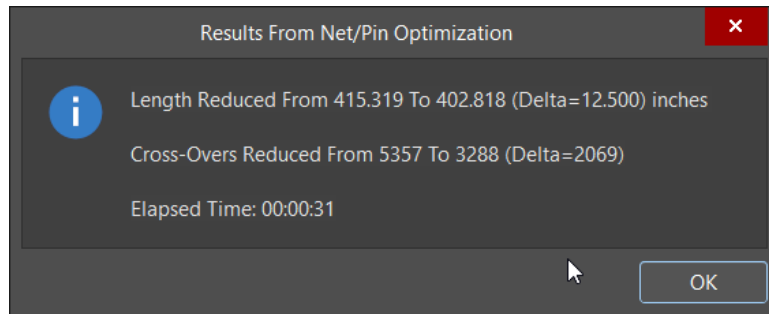

Figure 8. Results from Net/Pin Optimization
- b) Results of the optimization are summarized in Figure 8.